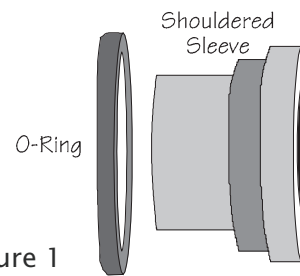

Figure 1
3. Shouldered sleeves with O-rings should already be installed in the shock eyes. If not, insert sleeves with O-rings in the shock eyes (figure 1).